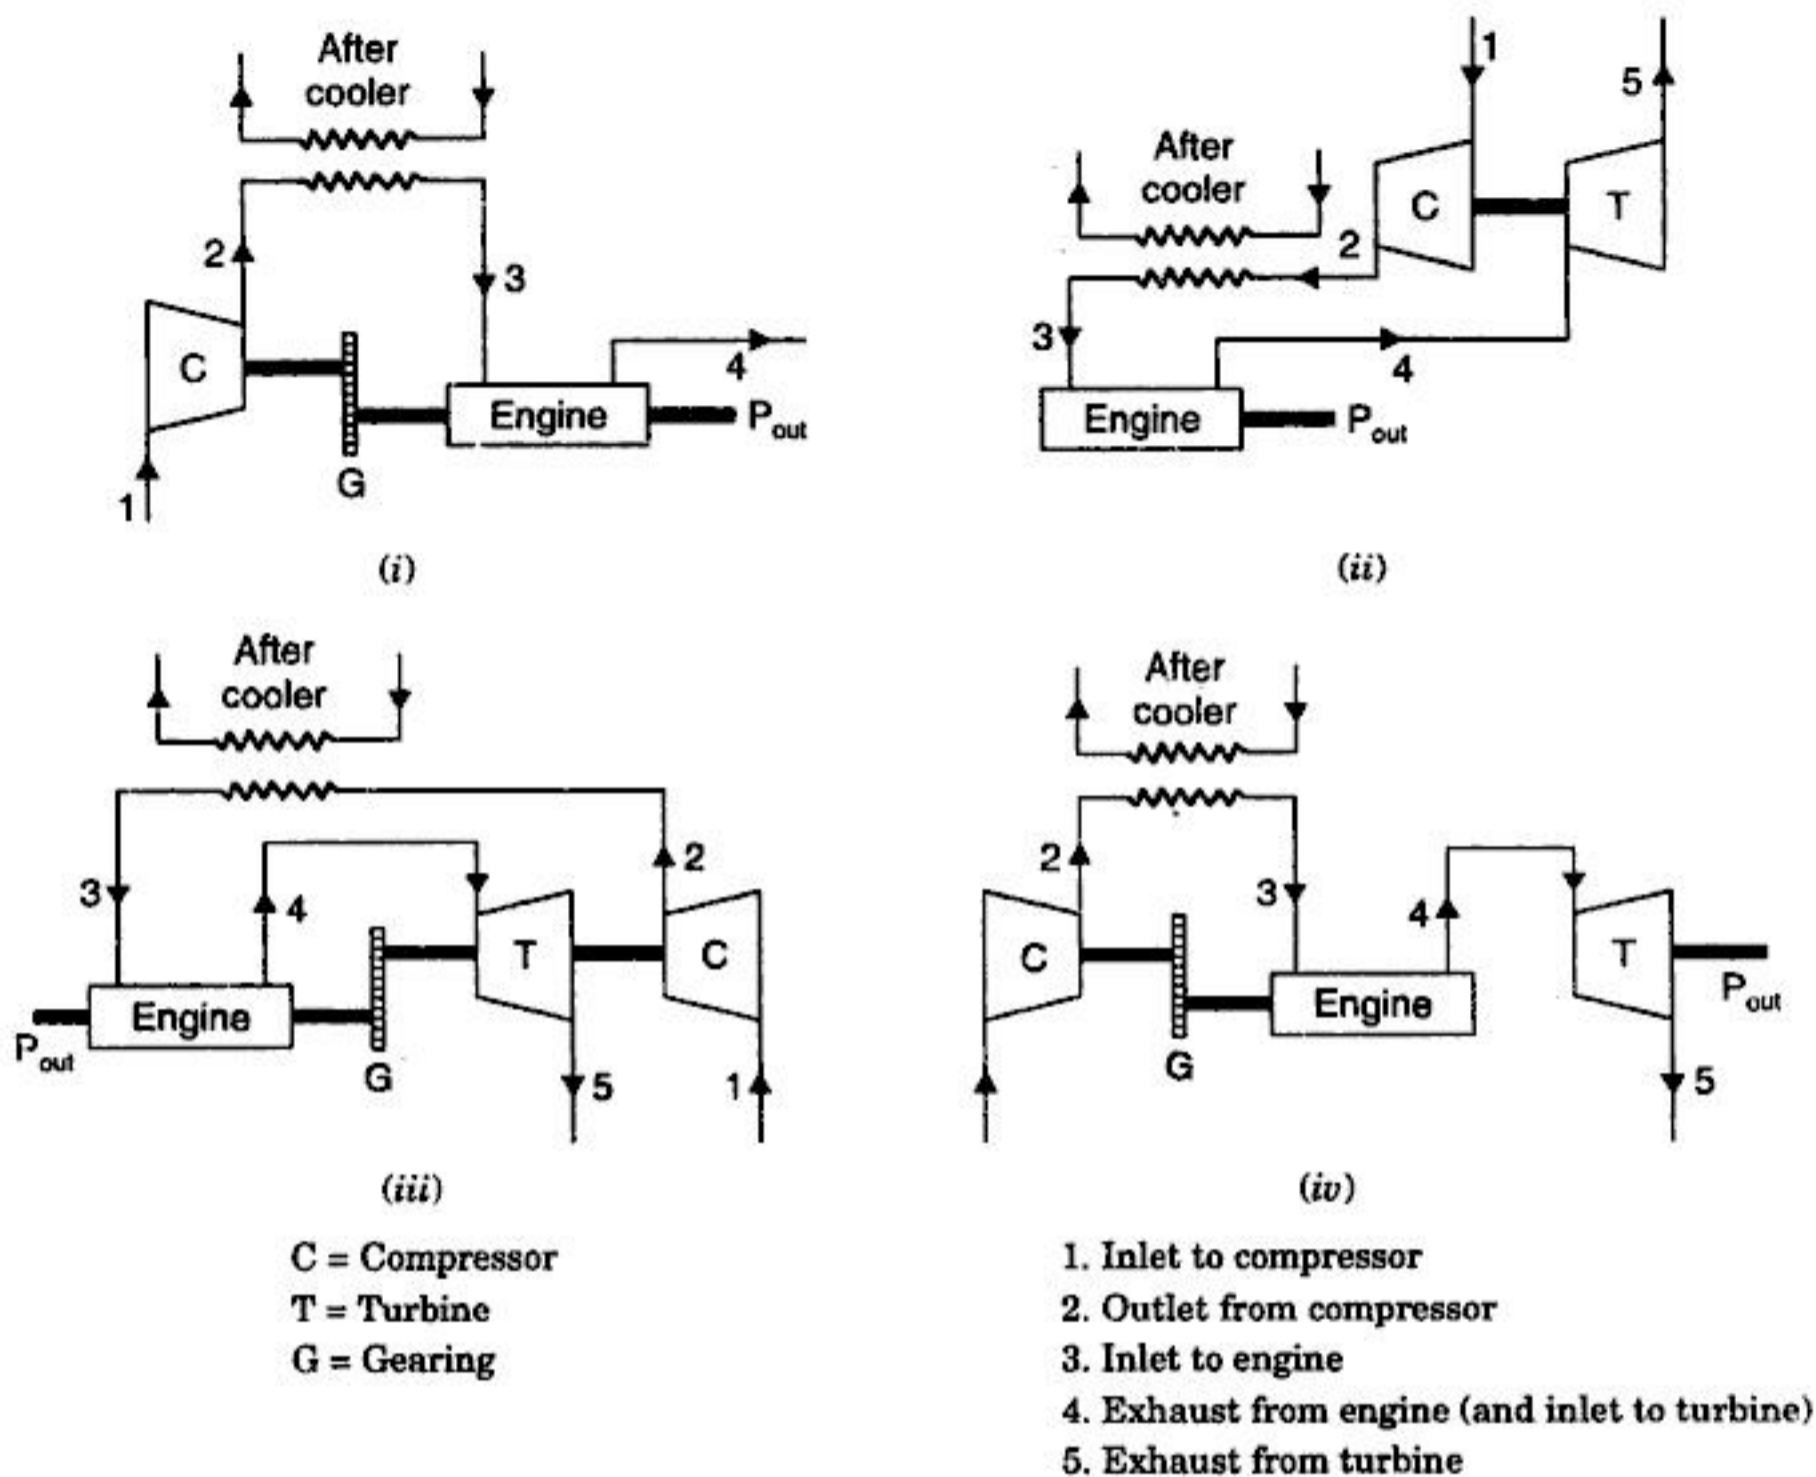

Fig. 16.9. Supercharging arrangements.
- Fig. 16.9 (iv) shows an arrangement of supercharging in which engine supplies its total power to the compressor and the exhaust gases from the engine run the turbine giving the power output. Such plants are called *fuel-piston engines*.